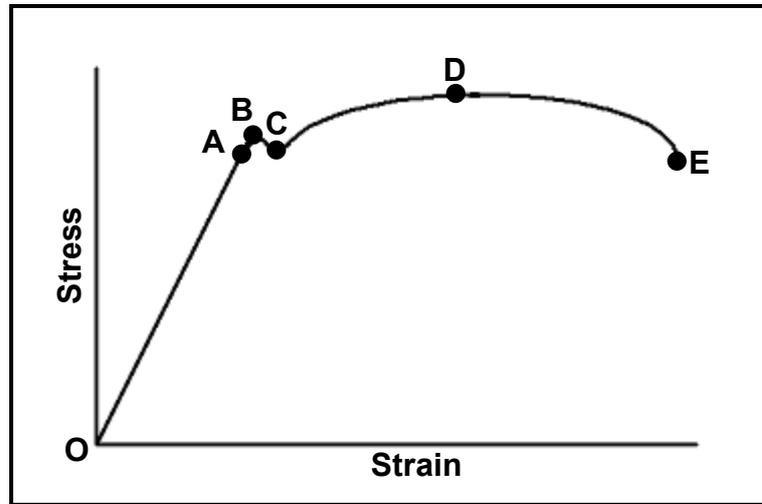

FIGURE 1.2
1.11 What does straight line OA represent in the stress-strain graph shown in FIGURE 1.2?